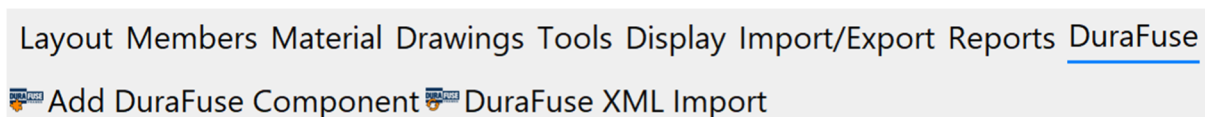

Figure 3-7. DuraFuse Frames Custom Toolbar
- 13) A new DuraFuse toolbar will show up in the SDS2 ribbon with quick buttons for the main component and XML import tool (Figure 3-7).